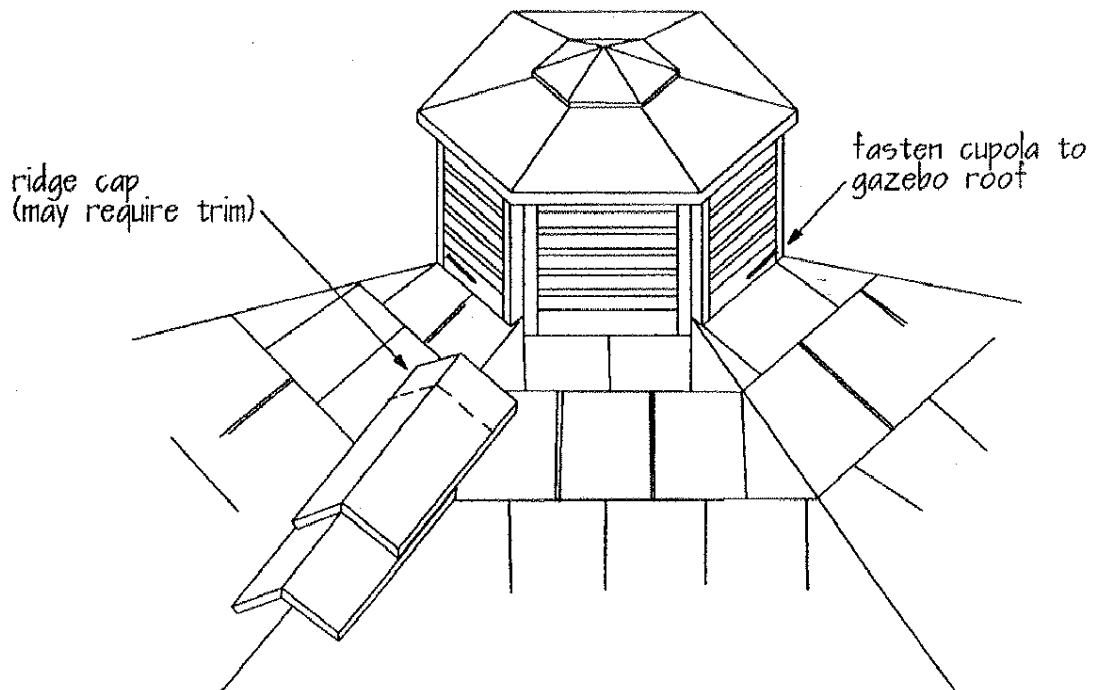

FIGURE D23
5. To mount the cupola on the Gazebo roof, remember to line up the cupola posts with the roof seams. The bottoms of the cupola walls have been bevelled to site properly on the roof. Using 3" screws, fasten the cupola to the Gazebo roof [Figure D23].
6. Continue with the ridge caps to complete the roof. You may have to trim the last couple of ridge caps to fit properly up against the cupola base. If you must trim two or three ridge caps, make them all about the same length so that the pattern is consistent [Figure D23].